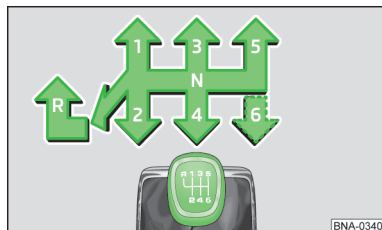

Fig. 63
The shift pattern for the individual gear positions is shown on the gear lever » fig. 63.
- › Move the gear lever forward into the **R** position » fig. 63.